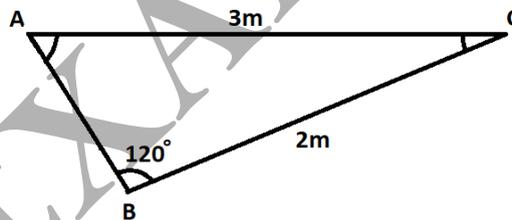

Figure Q1b: Bicycle frame.
- b) **Figure Q1b** shows a part of a bicycle frame which is simplified into a triangle. Top tube, AC is 3m and down tube, BC is 2m. if angle, $B=120^\circ$, find the other two angles, A and C, and the length of the seat tube, AB.